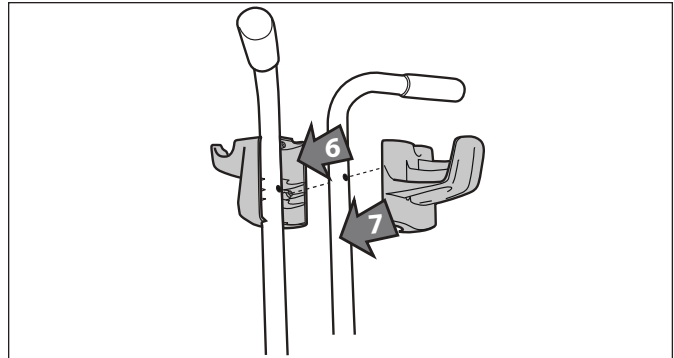

Figure 6. Position the Bottom Power Cable Hook
4. Position the power cable hook and control unit hook on the upper tubes as shown in Figure 6. Make sure the upper tubes (handles) are in the proper orientation.